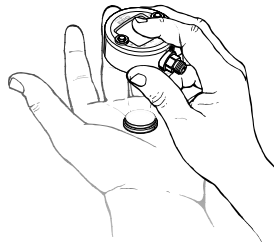

Figure 17
6. To remove the battery, turn the gauge over and let the battery fall into your hand (figure 17). Discard the battery in a proper receptacle.